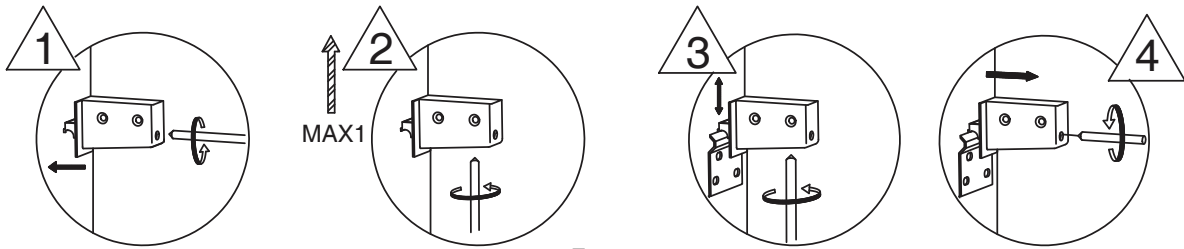

Fig.5
5. Set the washbasin cabinet onto the wall bracket. Be sure the cabinet adjusted level and the back board of cabinet appressed to the wall by adjusting the screws of wall clips. See Fig.5.
10. Set the washbasin cabinet onto the brackets. Be sure the cabinet adjusted level and the back board of cabinet appressed to the wall by adjusting the screws of wall clips. See Fig.5.